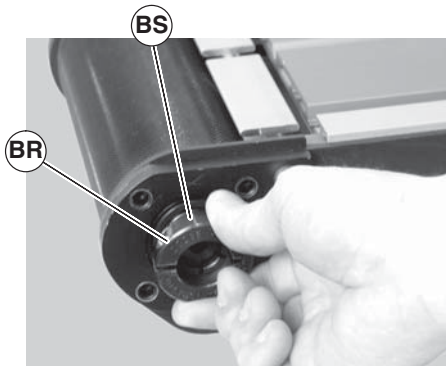

**Figure 49**
4. Remove four shaft cover screws (Figure 49, item BP). Remove the shaft cover (BQ).